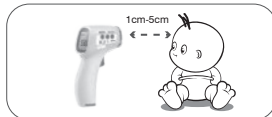

Figure 2: Measuring position and distance
- The thermometer is aligned with the middle of the forehead to measure body temperature (between the eyebrows center it above at the forehead level). Keep the vertical distance, press the On/Scan button, the temperature will display immediately, see Figure 2.